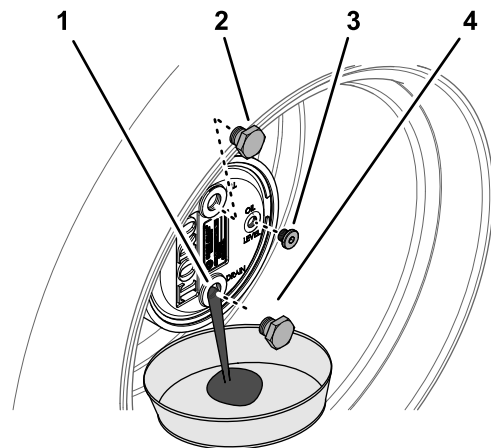

Figure 65
2. Remove the fill plug at the 12 o'clock position and the check plug at the 3 o'clock position (Figure 65).
3. Place a drain pan under the planetary hub, remove the drain plug at the 6 o'clock position, and allow the oil to fully drain (Figure 65).
5. Install the drain plug into the drain hole of the planetary housing (Figure 65).